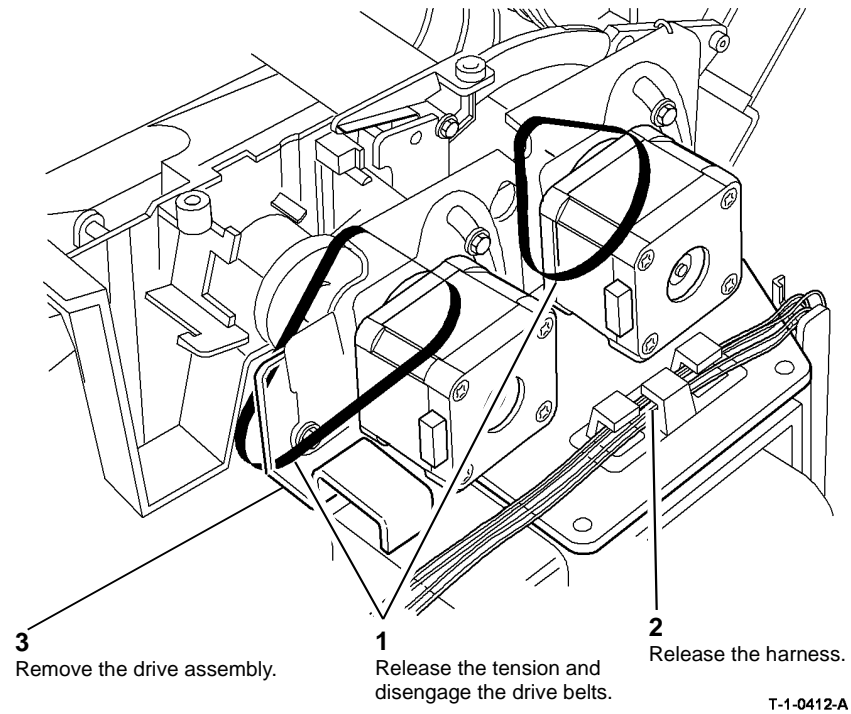

Figure 2 Drives assembly
3. Remove the drive assembly, Figure 2.